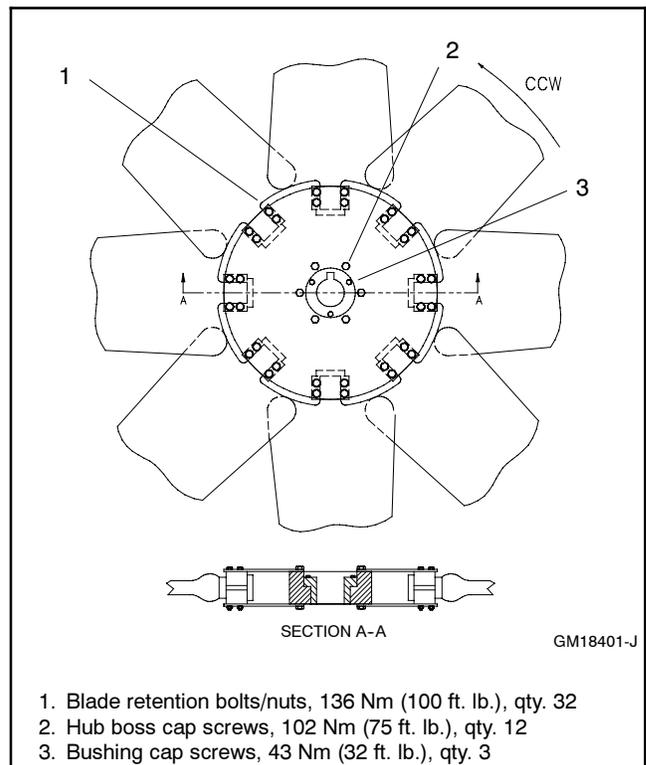

Figure 3-12 Fan Hardware Location and Torque
6. Retorque the (32 qty.) blade retention bolts/nuts to 136 Nm (100 ft. lb.). See Figure 3-12.